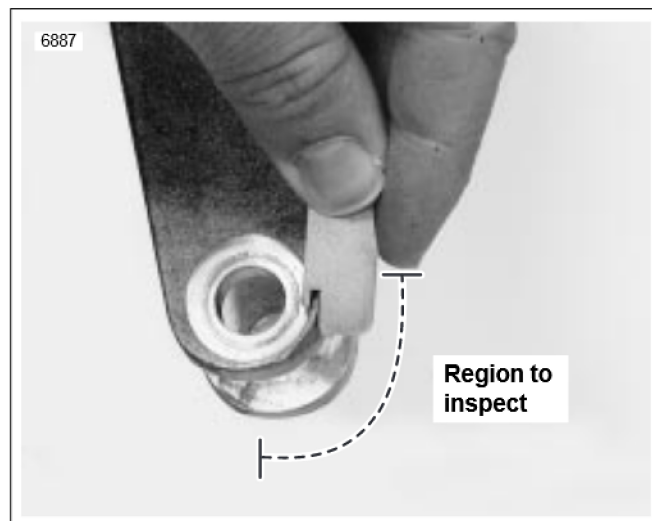

Figure 1. Leading Edge of Rear Shock Mount (Swingarm Shown Requires Replacement)
2. See Figure 1. Insert the SWINGARM CHECKING TOOL along the leading edge of the swingarm shock mount on one side of the motorcycle.